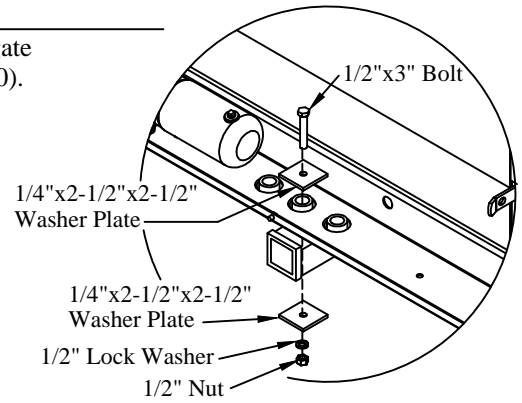

Figure 20: Lower bracket support (Class 4 hitch).
1. **Assemble** the supplied hardware through the center hole in the bottom of the liftgate mainframe and the center hole in the factory hitch plate on the truck (Figure 20).